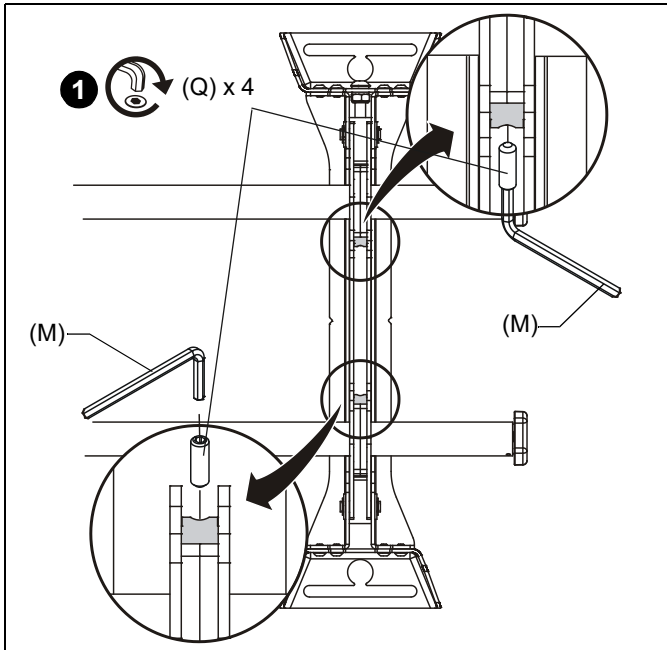

Figure 9
5. Snap off plastic straps on anchor at wall by pushing side to side, snapping of straps level with flange of plastic cap. (See Figure 9)
1. Lock rails into place using two 1/4-20 x 3/4" set screws (Q) on mount upright (Z) and the 1/8" hex key (M). (See Figure 9)